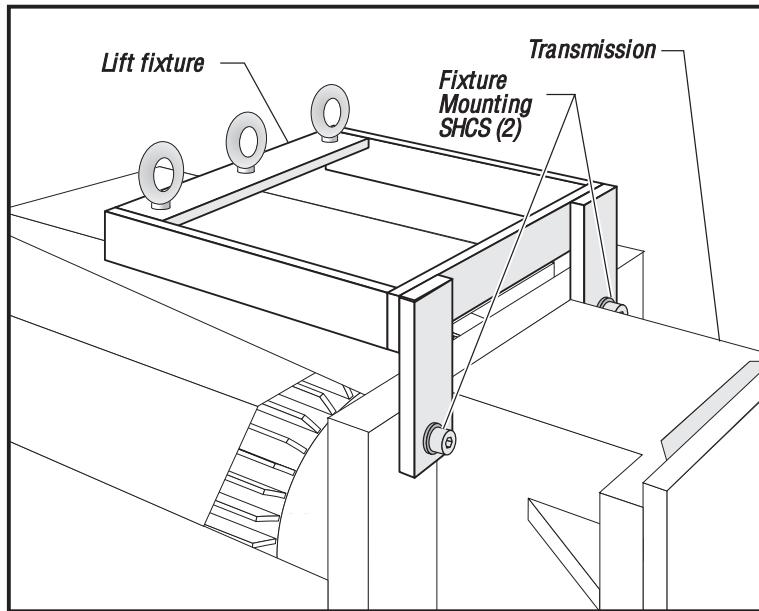

Figure 3-15. Transmission lift fixture.
14. Place the lift fixture onto the transmission (Figure 3-15). Attach to the motor mounting plate with two SHCS (1/2-13 x 1-1/4).